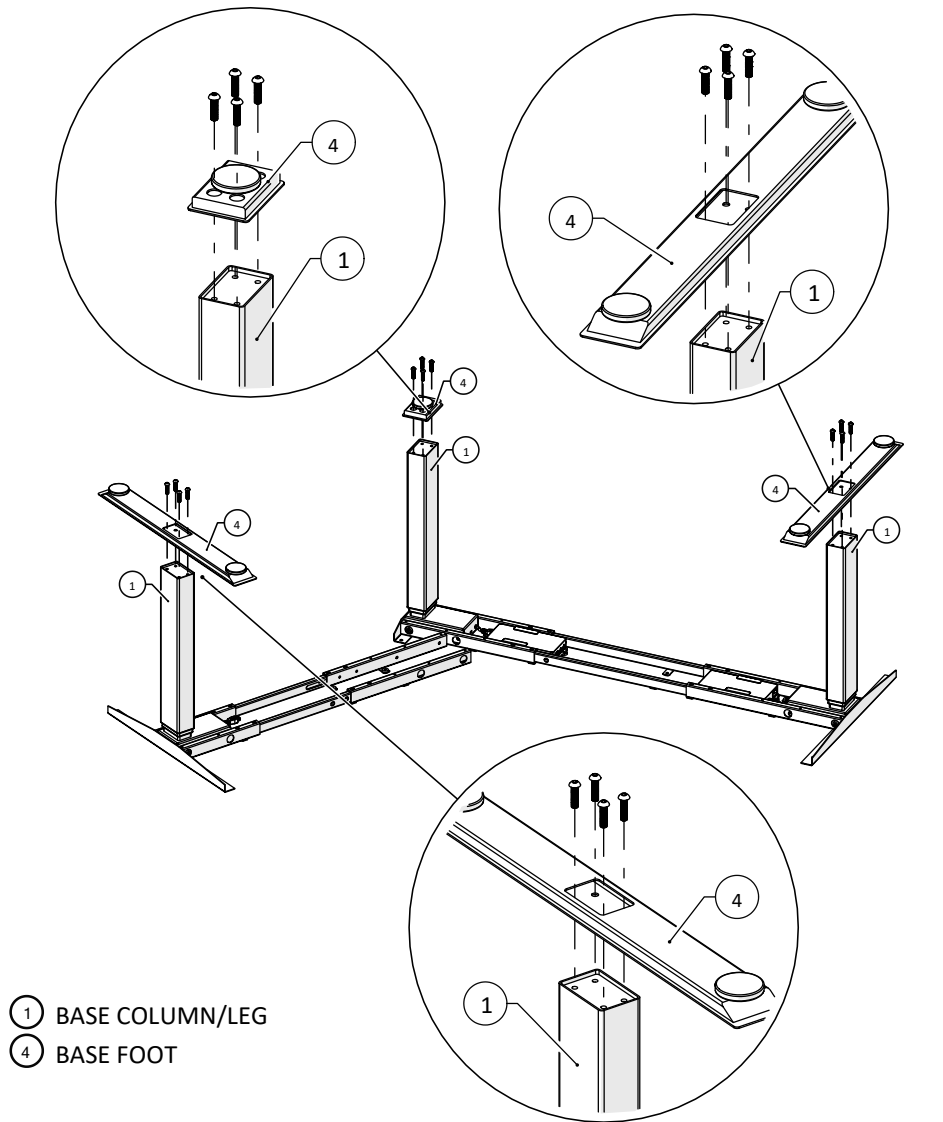

Figure 5
6. Install the base foot to the base column/leg using M8 X 30 machine screws, (Figure 5).